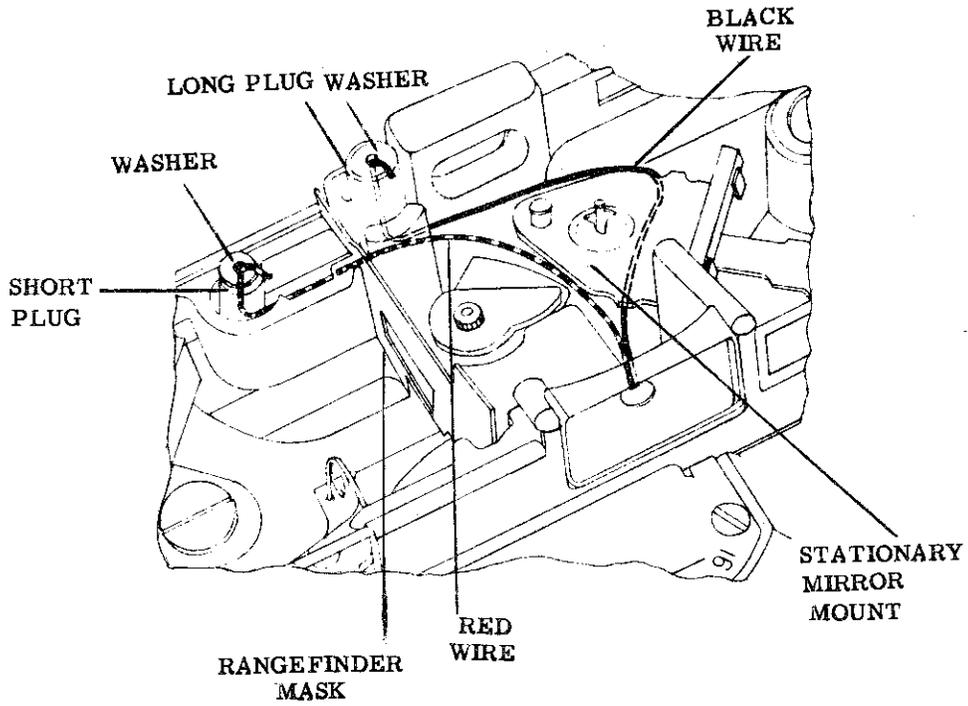

Figure 24. Synchronization Wires
- b. The red or green shutter wire is positioned in the lower or right cavity. Tuck the wire down and under the edge of the stationary mirror mount so that it will not interfere with the moveable mirror. Thread the wire through the short plug (19) and washer (20); bend the tinned end of the shutter wire over the washer and down the side of the plug (figure 24).
- c. The black wire, passing under the fixed mirror mount (figure 24), is threaded through the long plug (18) and washer (20); bend the tinned end of the shutter wire over the washer, down the side of the plug and position the plug in the left cavity.
- d. Replace the rangefinder mask (13) in its slots near the center of the camera (figure 24).
- e. The cover (8) may be reassembled at this time with machine screw (9) and self tapping screw (10).